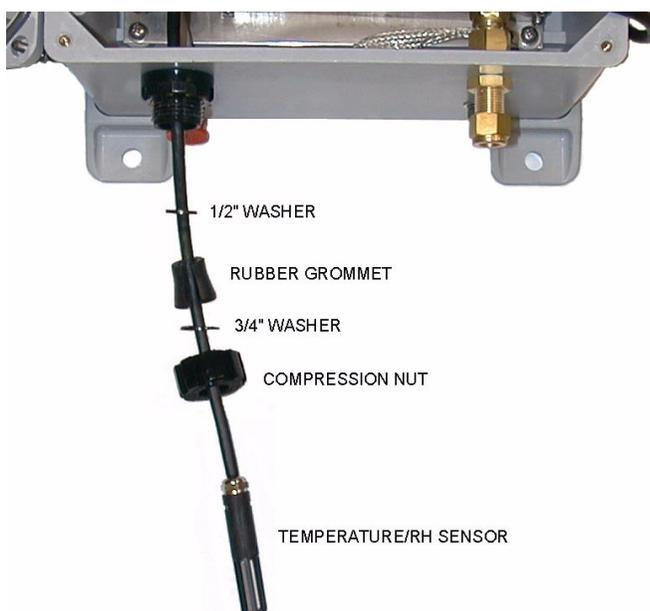

Figure 10-26 Payload Stuffing Tube
8. Unscrew the compression nut from the stuffing tube where the T/RH cable enters the GSOS enclosure (see Figure 10-26).
13. Feed the T/RH sensor through the stuffing tube (and its washers and grommet) as shown in Figure 10-26. The T/RH probe body is too large to fit through the stuffing tube washers and grommet. Make diagonal cuts in the washers and grommet with diagonal cutters or a utility knife.